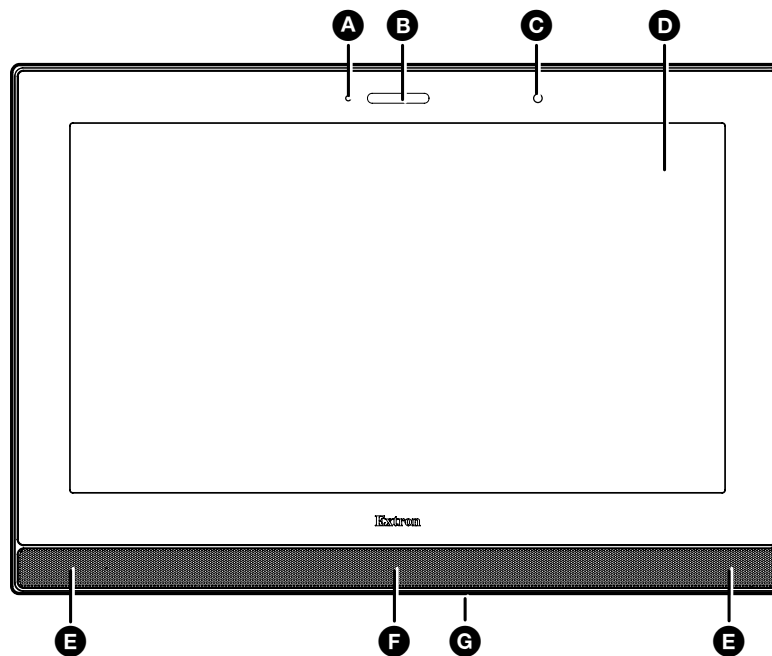
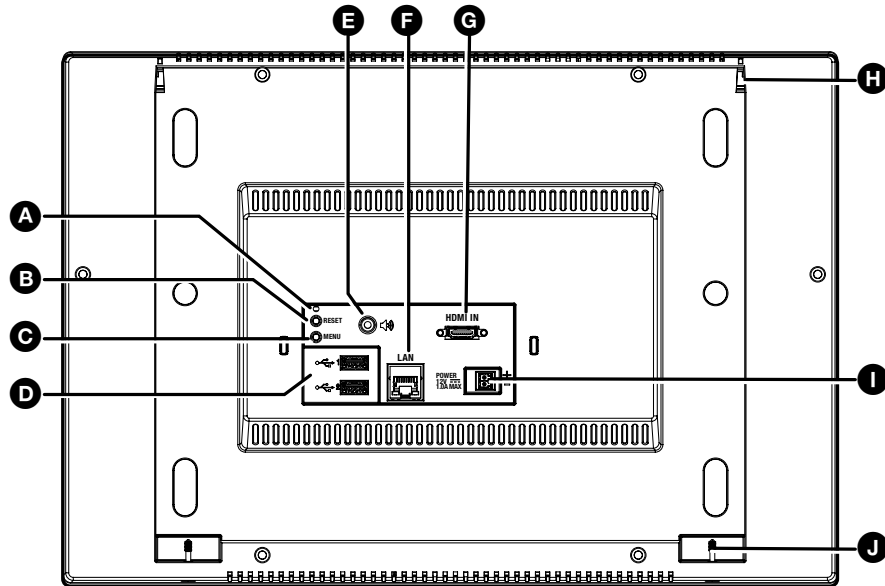

Figure 4. FPC 6000 Front Panel
Figure 5. FPC 6000 Rear Panel
Figure 4 shows the front panel of the FPC 6000, removed from the mounting frame.
Figure 5 shows the rear panel of the FPC 6000, removed from the mounting frame.
- PoE input — If you use the provided PoE power injector, connect the FPC 6000 to the power injector output and connect the power injector input to the LAN (see figure 5, on the previous page).
To open the setup menu, press the **FPC Settings** link at the bottom of the **Login** screen (see figure 20 on page 22), which appears when the FPC 6000 is powered on. Alternatively, press one of the **Menu** buttons, which are found on the rear panel (see figure 5, **C** on page 10) or under the front panel (see figure 4, **G** on page 9). Use a small screwdriver to press the button.